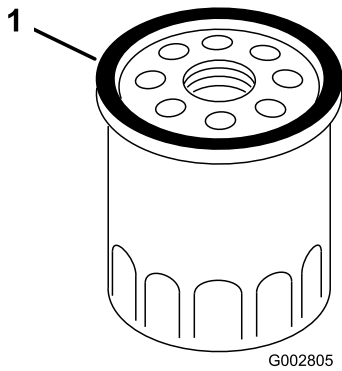

Figure 27
4. Use your finger to coat the gasket on the new filter with oil (Figure 27).